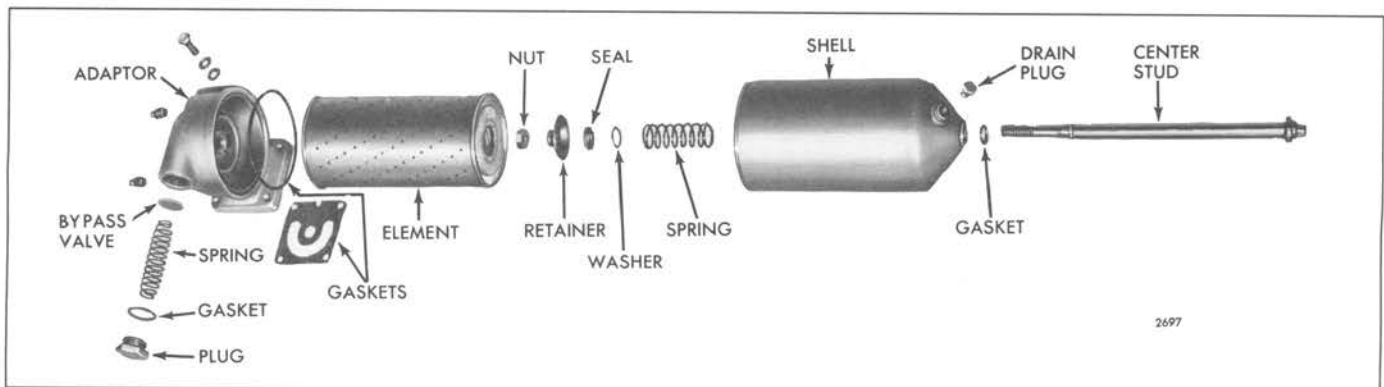

Fig. 6 – Full Flow Oil Filter Details and Relative Location of Parts
5. Remove and discard the element retainer seal (Fig. 6). Install a new seal.